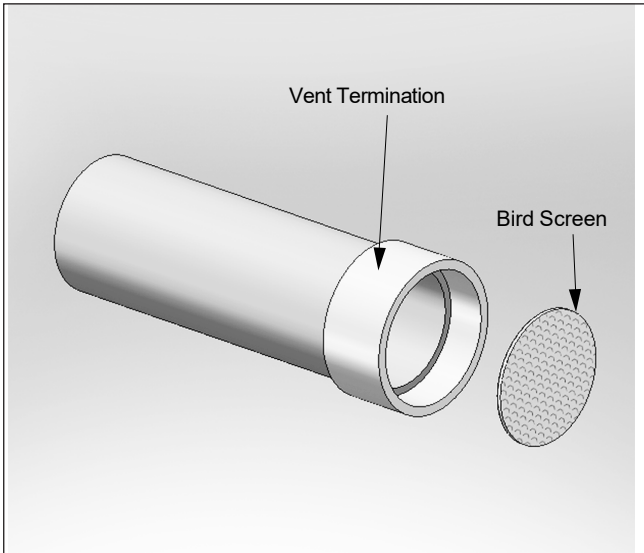
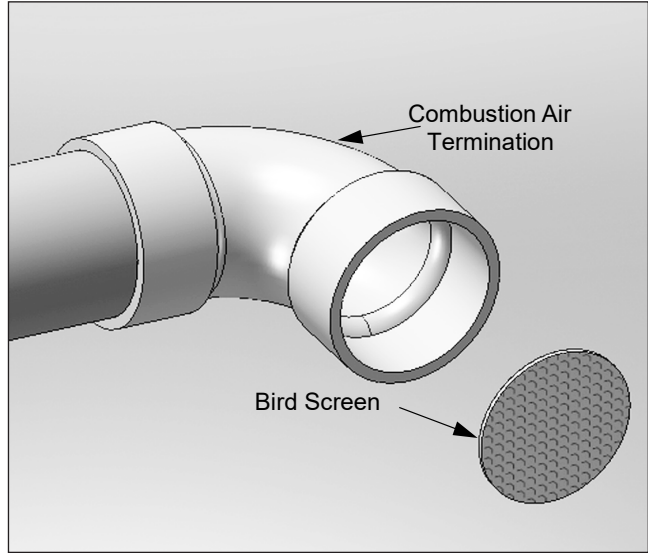

Fig. 9 - Sidewall Vent Bird Screen Installation
Fig. 10 - Sidewall Combustion Air Bird Screen Installation
- The vent and combustion air terminations must include a factory supplied "bird screen" installed as shown in *Fig. 9 and Fig. 10 on page 18*.
1. The vent and combustion air terminations must include a factory supplied "bird screen" installed as shown in Fig. 3 on page 14 & Fig. 10 on page 18.